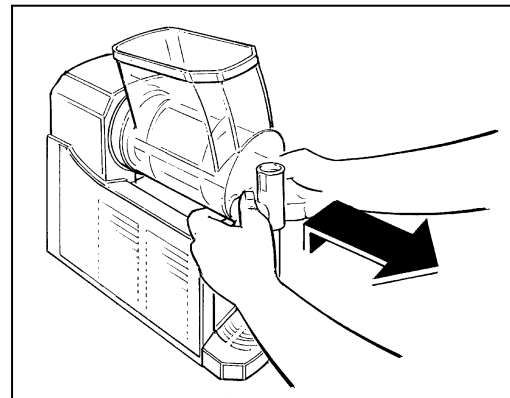

Fig. 6
- **P**ull the tank upward and outward, as shown, to completely remove it from its seat (fig.6).